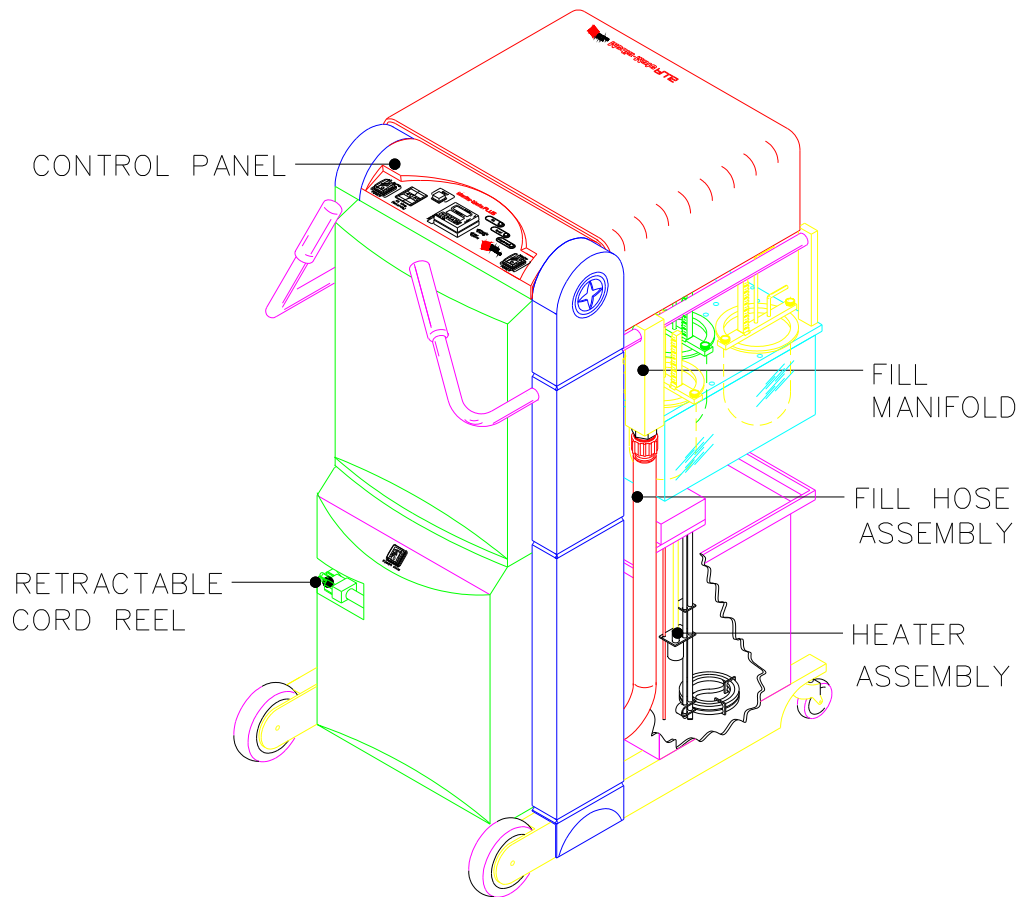
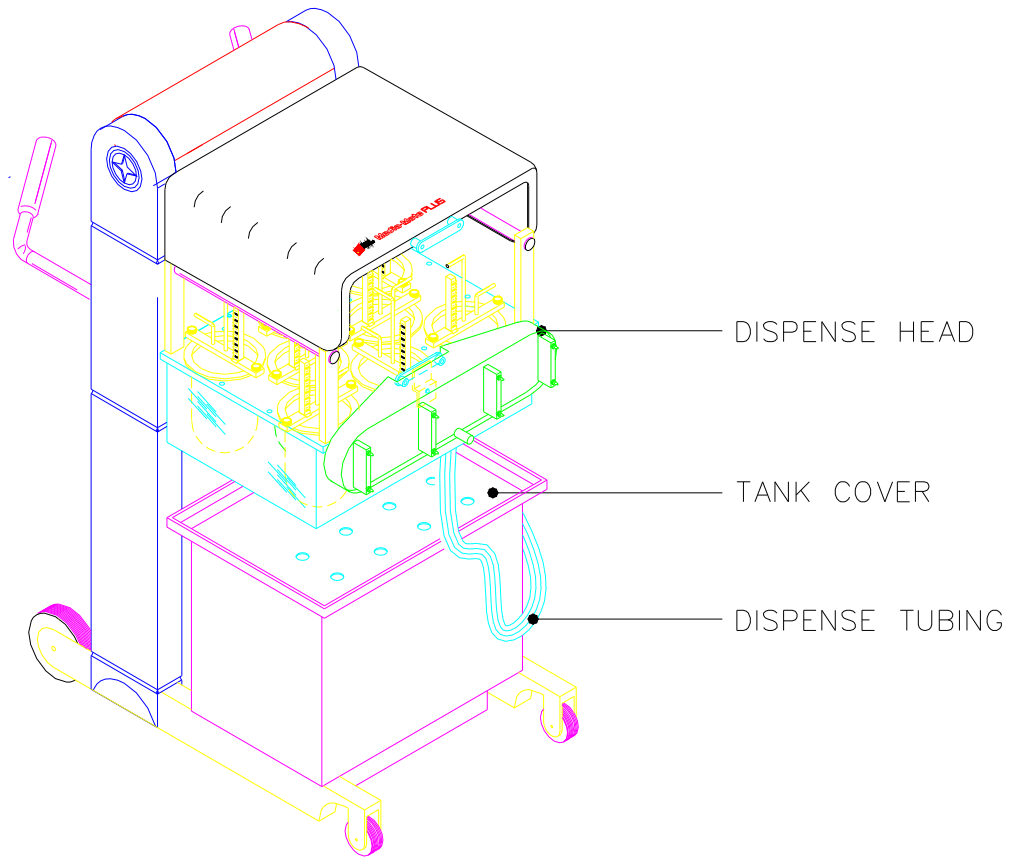

Figure 5.2
Figure 5-5
4. Remove dispense head (see figure 5-5) from shipping position within tank, remove from bubble pack, and place as shown.
2. Install the heater assembly into the tank as shown (see figure 5-2). Place tank cover onto tank (see figure 5.5).
4. Remove the fill hose assembly from its holding position on the side of the tank and connect to the fill manifold (see figure 5-2).
6. Connect the dispense tubing to the dispense head and position over the holes in the tank cover (see figure 5-5).